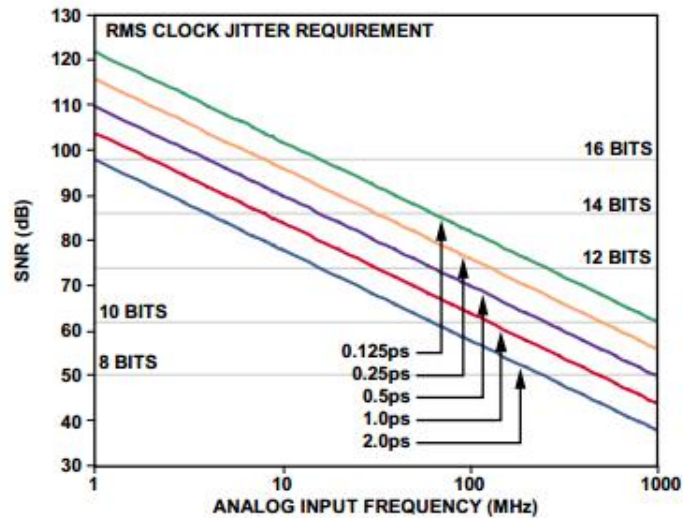

Figure 44. Ideal SNR vs. Analog Input Frequency and Jitter
In this equation, the rms aperture jitter represents the root sum square of all jitter sources, including the clock input, analog input signal, and ADC aperture jitter specifications. Intermediate frequency (IF) under-sampling applications are particularly sensitive to jitter (see Figure 44).